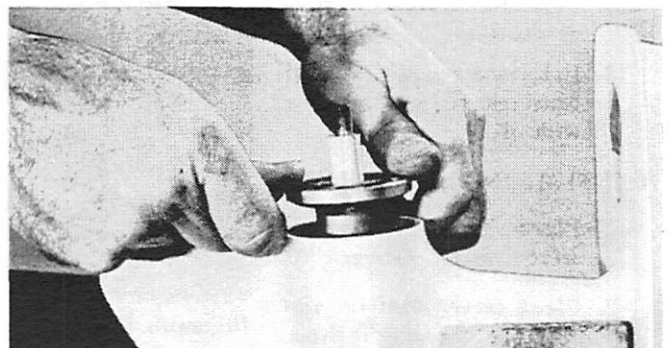

Figure 12. Installing Bearing Carrier
7. Install plastic guide tube (23-30960) over propeller shaft to protect oil seals. Push bearing carrier into gear housing until it seats against ball bearing thrust ring. (Figure 12) Plastic guide tube may be removed from propeller shaft.